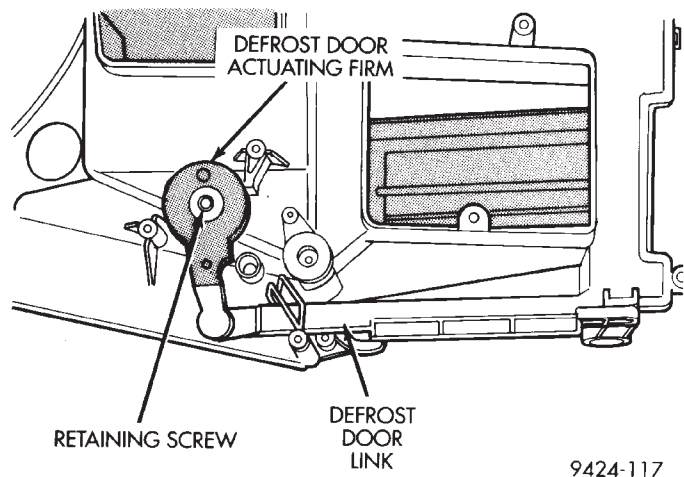

Fig. 85 Defrost Door Actuating Arm And Screw
(4) Install defrost door actuating arm and retaining screw at housing (Fig. 85).